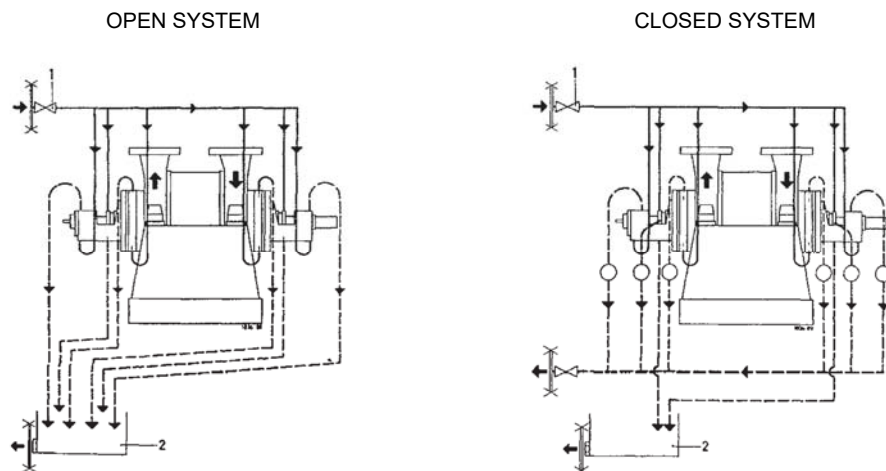

Figure 37
10.7.2.4 For ambient temperature > 45 °C and pumped medium temperature > 150°C to 180 °C the bearing housings shall be cooled (see Figure 37).